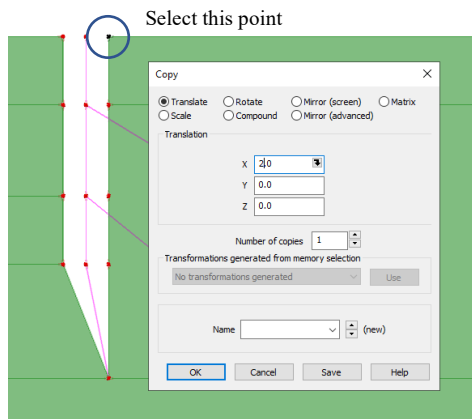

Figure 12: Copy point for load position
- To define the points between which the surface load is applied, select the point (10,20) and copy it 2m to the right using **Geometry > Point > Copy...** (figure 12). Copy again to generate a point 7m to the right.